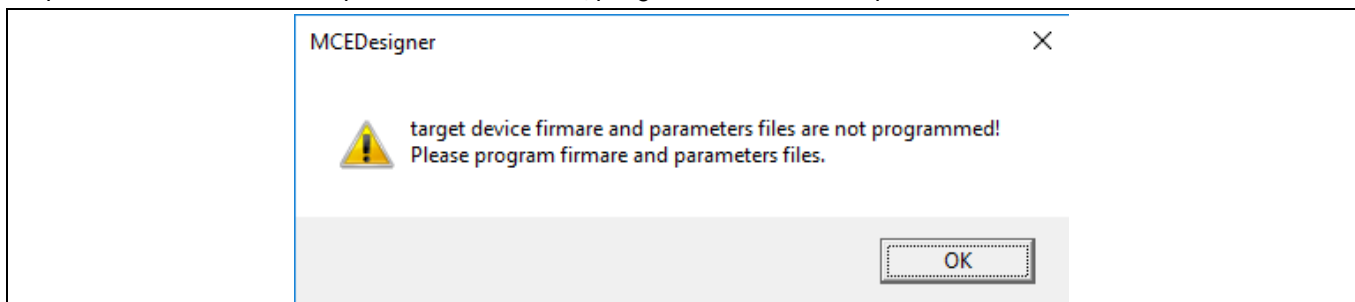

Figure 7 MCEDesigner warning message
8. In case of blank IC: If the firmware has been erased from the IMC101T, a warning message will pop up saying “Target device firmare and parameters files are not programmed! (Figure 7) Please program firmware and parameters file.” See step 9 on how to obtain/program firmware and parameters.